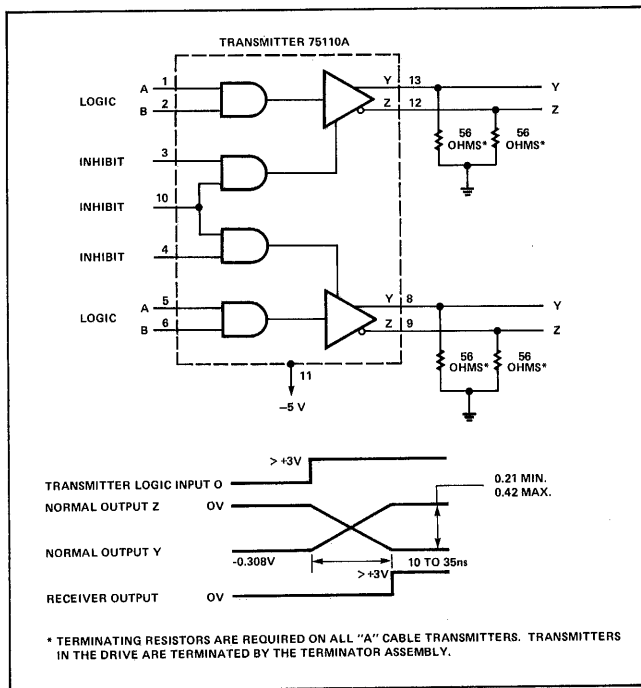
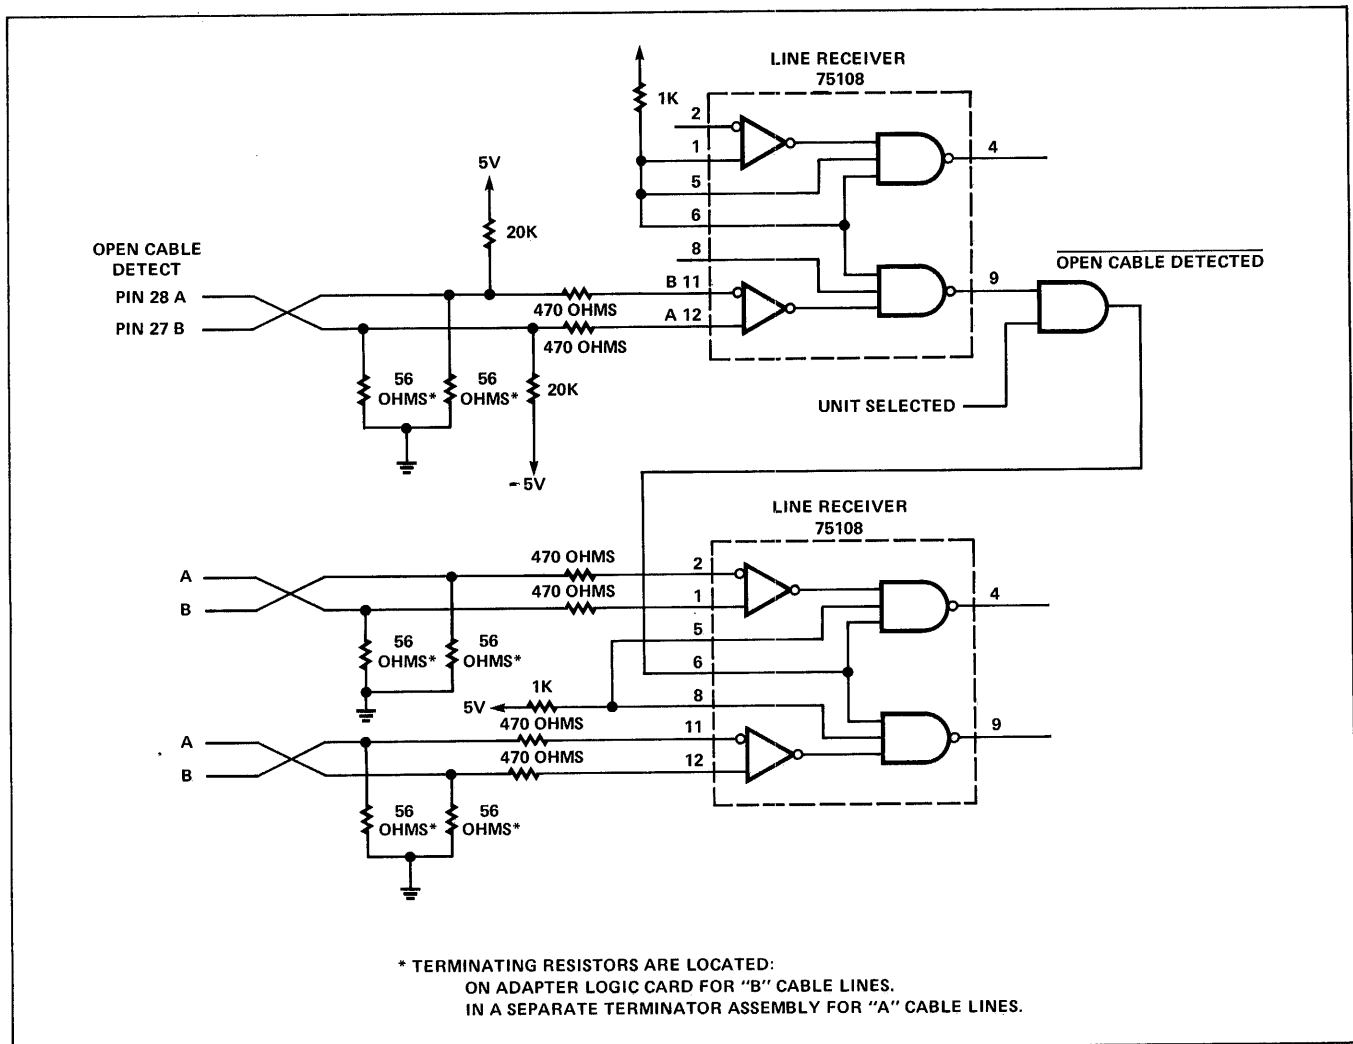

Figure 3-42. Control Line Transmitter
Figure 3-43. Control Line Receiver
2. Line Transmitter Characteristics The SMD standard line transmitters (Figure 3-42) are compatible with the line receivers described below.
Control Signals: see Figure 3-42.
Control Signals: On the "A" Cable, the transmitters are connected to the I/O line so that the output, labeled Z (Figure 3-42) is connected to the odd numbered pin of the cable connector. This output in turn connects to the receiver pin labeled B (Figure 3-43) except for the Unit Selected line, which is connected in the opposite manner.
3. Input Amplifier (Receiver) Characteristics The drive's input amplifier (Figure 3-43) is SMD-standard compatible with the line transmitter described above.
Control Signals: The input, labeled B (Figure 3-43) of the receiver is connected to the odd numbered pin of the cable connector, and thus connects to the transmitter pin labeled Z (Figure 3-42).